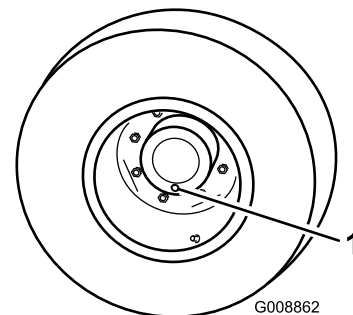

Figure 69
1. With the machine on a level surface, position a wheel so one of the check/drain plugs (Figure 69) is at the lowest (6 o'clock) position.